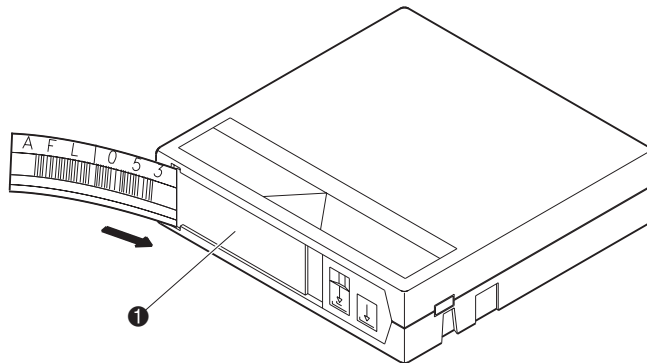

Figure 2-7: Inserting a barcode label (DLT cartridge shown)
For DLT and SDLT cartridges, place the label in the slide-in slot (❶ Figure 2-7) on the front of the tape cartridge.